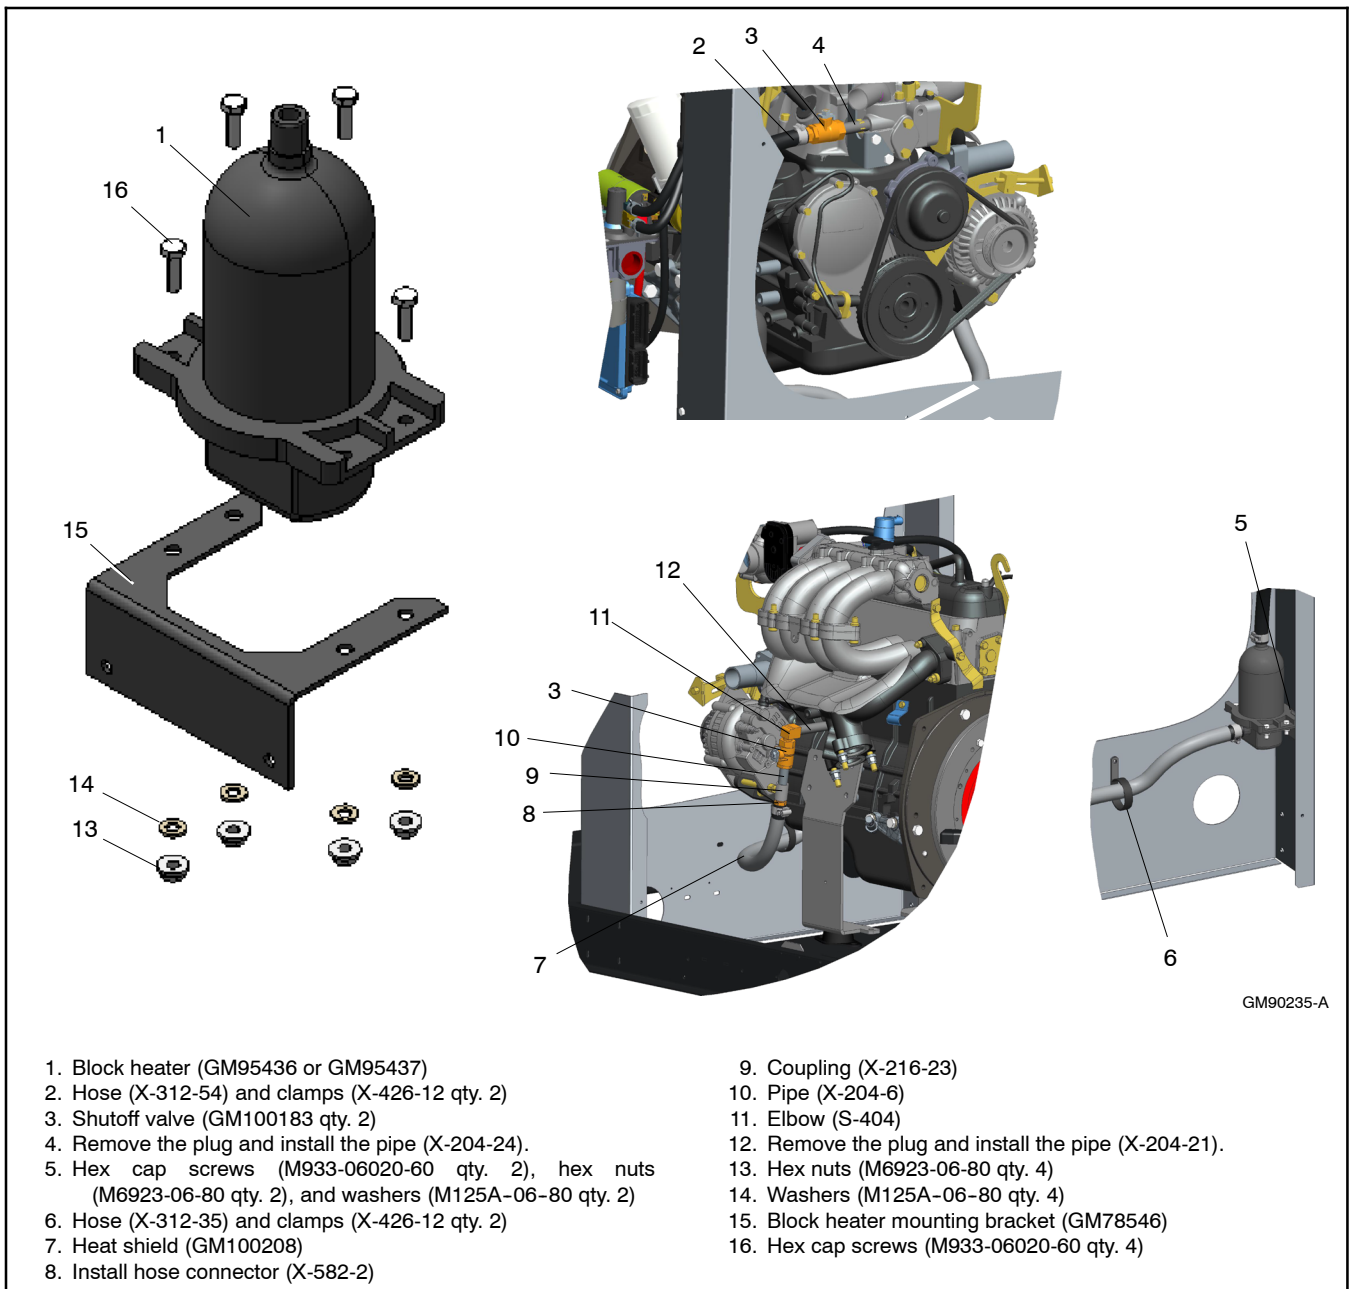

Figure 2 Block Heater Kit (GM101015-KP1/-KP2)
- Install block heater on mounting bracket (GM78546) using screws (M933-06020-60 qty. 4), washers (M125A-60-80 qty. 4), and nuts (M6923-06-80 qty. 4). See Figure 2.